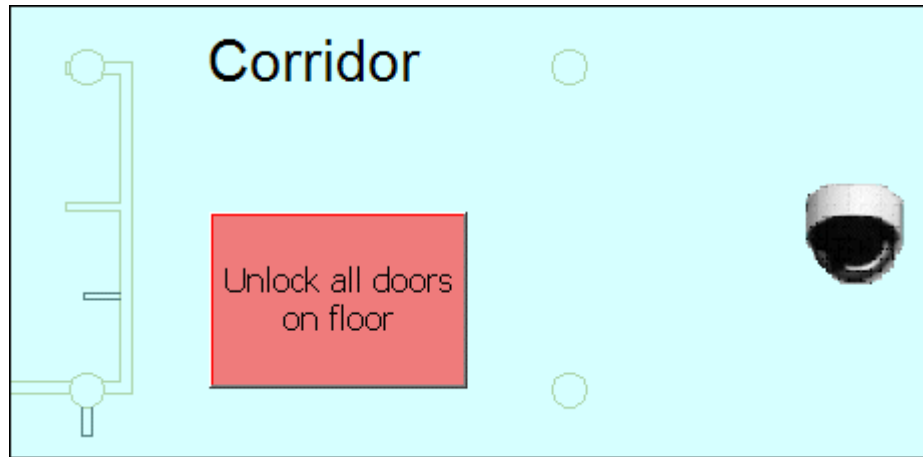

Fig. 19 Example of graphic command button on a map
7. Close the window to save your changes. (See Fig. 19.)